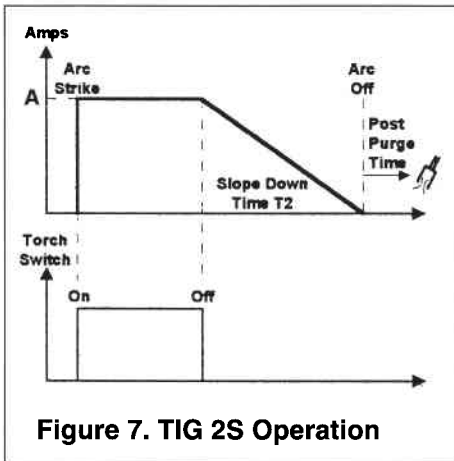

Figure 7. TIG 2S Operation
6. TIG Welding with 2 Stroke Torch Switch and HF Start, see Figure 7.